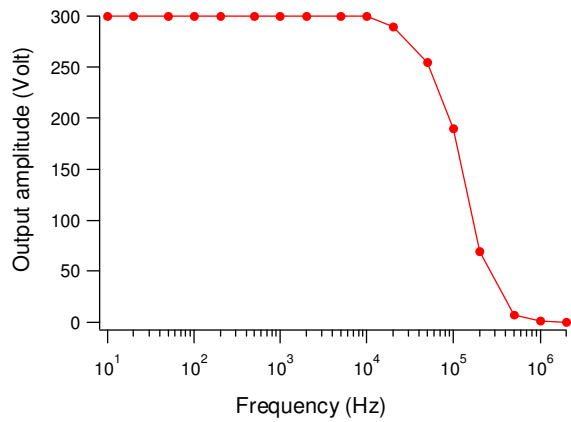

Figure 2. Frequency response at 300Vpp output voltage
- Frequency response (Fig. 2, 3)